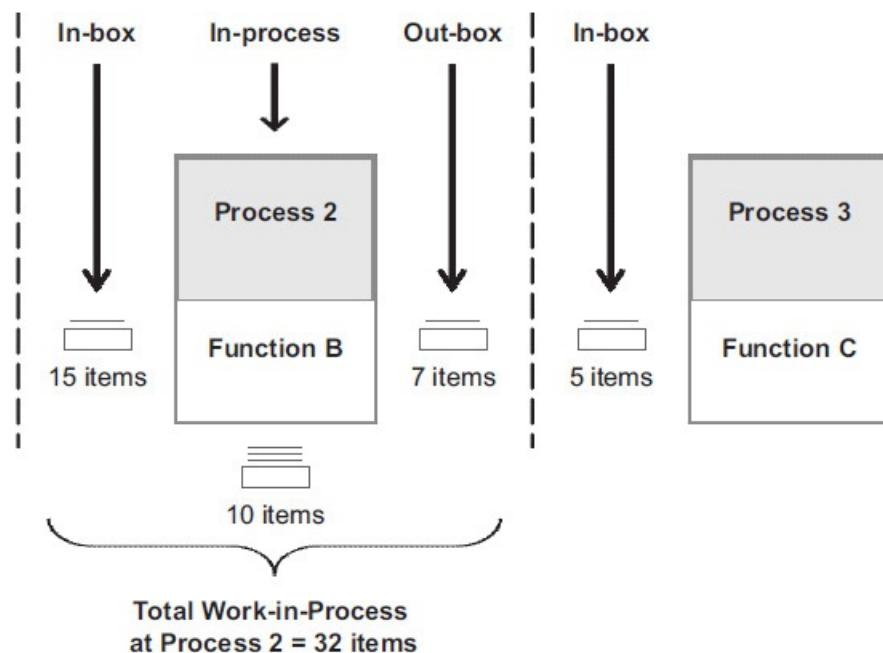

FIGURE 3.5 Three places work can accumulate
Work-in-process is the accumulation of work between or within processes. It's a symptom of overproduction, overburden, batching, poor incoming quality requiring rework, variation in prioritization rules, variation in skill proficiency, and so on. As shown in Figure 3.5, work can accumulate in three places, and you must include the quantities in all three places to get the accurate work-in-process quantity for the process you're reviewing: (1) work that's in queue but hasn't been started yet, (2) work that's being processed but hasn't been completed, (3) work that's been completed but hasn't been passed on to the next process in the value stream. To gain greater insights into the current state, the team should also make note of the oldest item in the queue.
Accumulated work-in-process (WIP) is placed on the map *to the left* of the process block it refers to. We typically use an in-box icon to depict WIP in office-based value streams rather than the classic triangle or tombstone shape, and we only include the WIP icon where a delay exists. Therefore, if there's no in-box between process blocks on our value stream maps, it means that there was no WIP at that process during current state mapping. Beginning teams sometimes prefer including the WIP icon for all process blocks, using a zero if no WIP exists. As mentioned earlier in the chapter and shown in Figure 3.5, remember to account for WIP in all three locations.